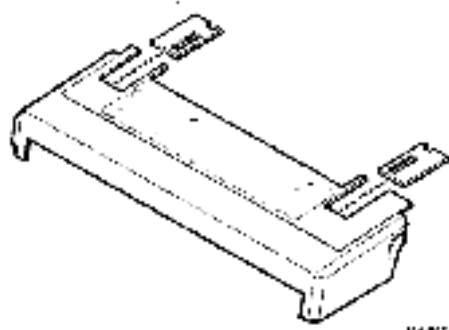

Figure 4-2 Front Access Cover Inserts
2. Slide the three bail bar rollers to extreme right (Figure 4-2). Leave bail bar away from platen.
3. Lower the mounting bracket onto printer until self-loading latches lock onto the platen shaft (Figure 4-2). Place bail bar against platen.